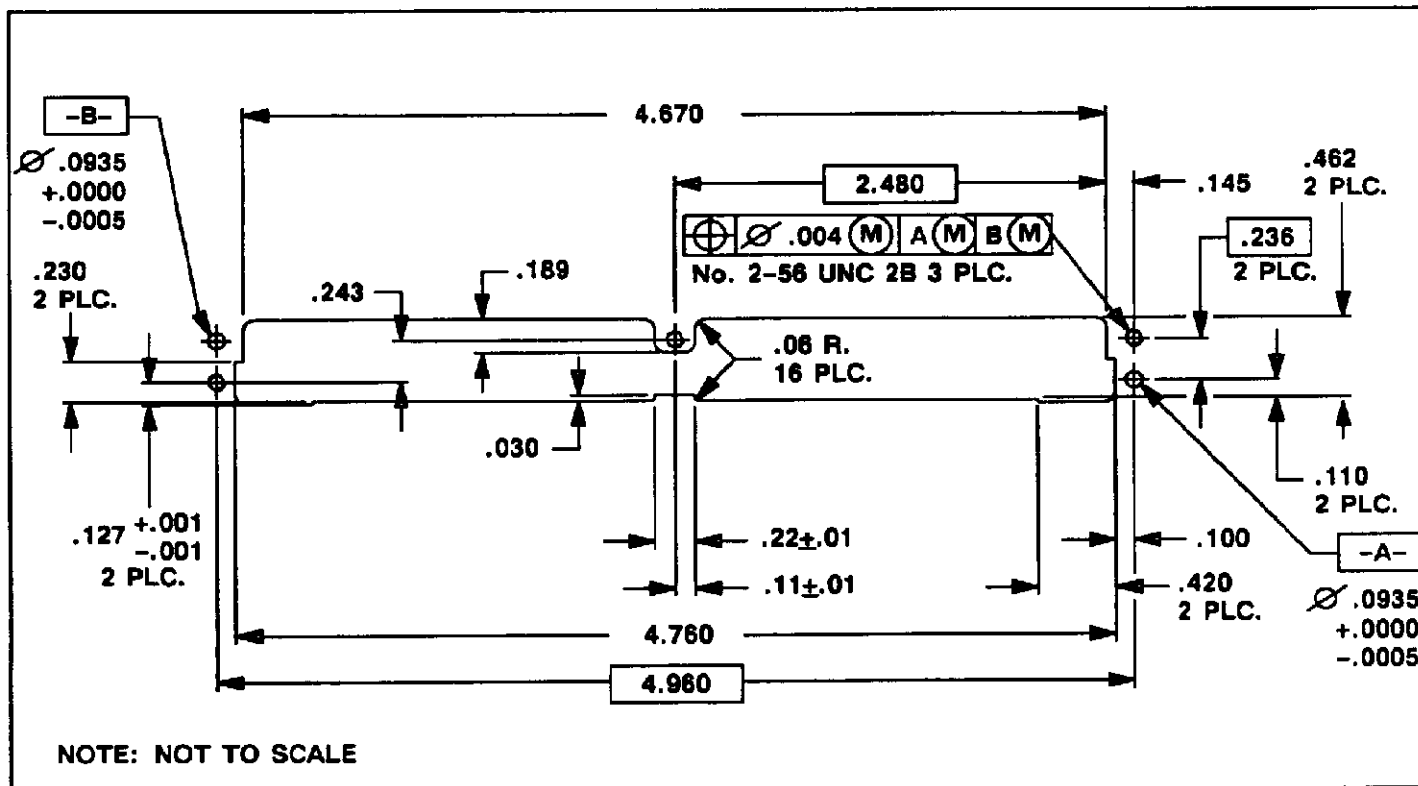

Fig. 3
The support plate of the motherboard must be cut out and drilled to the dimensions shown in Figure 3. The guide pins are installed as follows:
2. Using a customer-supplied insertion fixture (such as an arbor press capable of applying 250 lbs of pressure), press the guide/ground pins straight (perpendicular within  $\pm .002$  from center) into the indicated holes (see Figure 3) of the motherboard until the larger diameter of the pin is bottomed on the board surface.